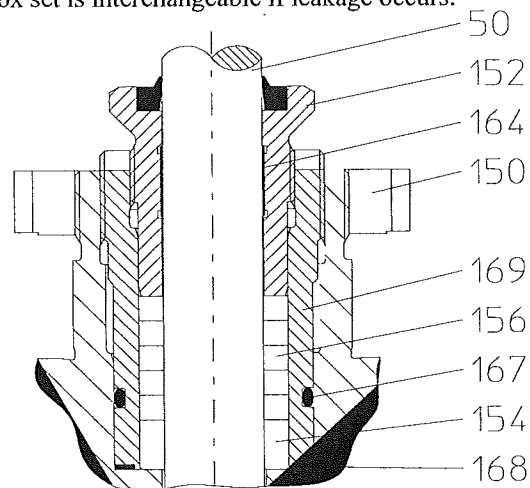

Fig. 1 -Stuffing box package- Detail X
- Unscrew stuffing box screw (152)
- See also under **Fig. 1** on page 7
- Loosen screw-connection between body (1) and top flange (2).
- Take-off top flange (2).
- The plug (26) is eventually taken off together with the top flange (2).
- Pull plug (26) out of the top flange (2).
- **Attention ! Do not bend the spindle (50)!**
- Remove packing set (156) and bottom ring (154).